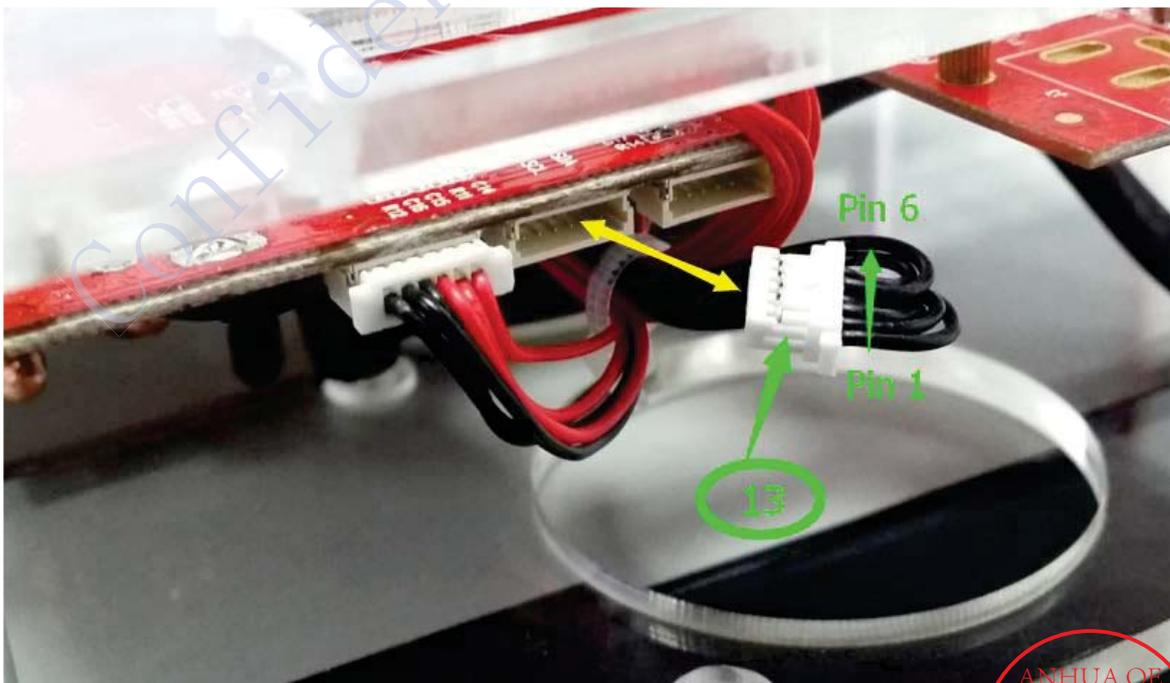

Figure 5 I2C Interface
⑬ DPP6401F I2C interface: DPP6401F as a I2C slave device, it can be connected to the external MCU or DLP Composer for command and control.
In figure 5, ⑬ is the I2C interface connected to DPP6401F, the Pin definition as the following table.
J4 is the I2C interface on DeVaSys USB-I2CIO board. Connect SCL, SDA and GND respectively between J4 and terminal ⑬ on figure 5, and then connect computer and DeVaSys USB-I2CIO board with USB Cable. Thus, the connection between DPP6401F and DLP Composer via DeVaSys USB-I2CIO, can be realized communication.